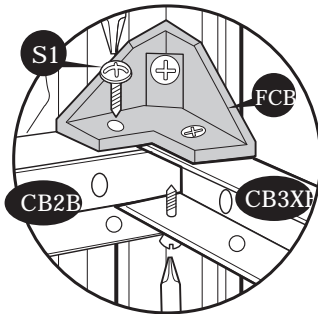

Fig.2: Use (S1) screws. Fix (CB2B) to (FCB) and (CB3XB).
17. Stabilize the side panels with center band (CB2B). Fix (FCB) to column (CCB) See (fig.1) (fig.2) (fig.3) and (fig.4) for details.